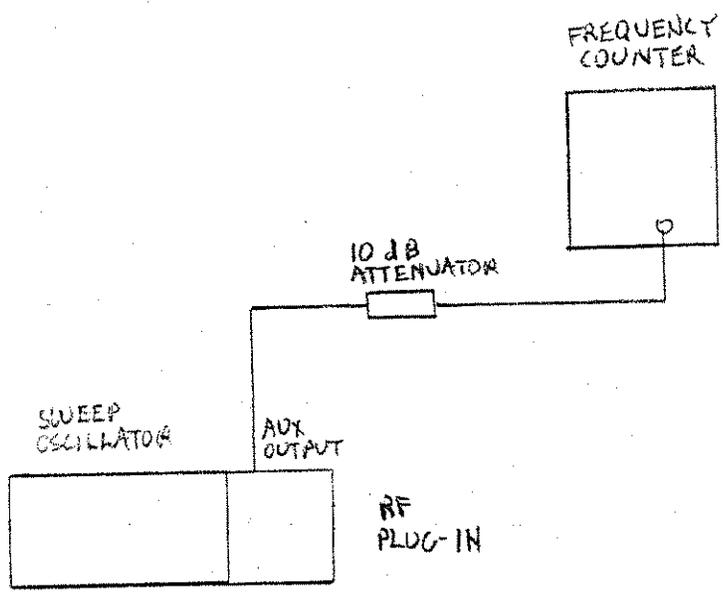

Figure 5-10. Preliminary Frequency Accuracy Test Setup
1. Connect the equipment as shown in Figure 5-10 with the Frequency Counter connected to the 83592A rear panel AUX OUTPUT connector through the 10 dB attenuator. Allow the equipment to warm up for 1 hour.